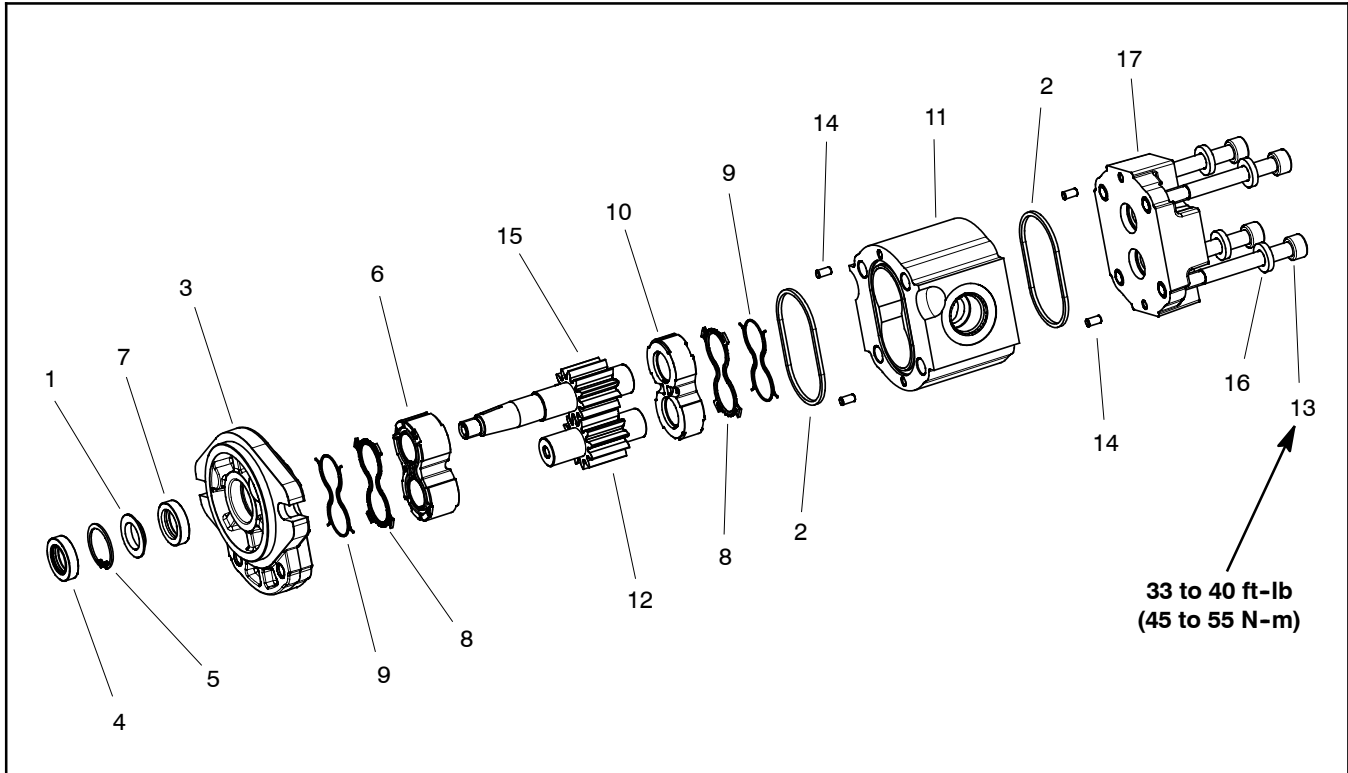

Figure 96
The Casappa cutting deck motors have similar construction as the cooling fan motor (also a Casappa brand) used on the Groundsmaster 4100-D and 4110-D. The deck motors have a separate rear cover (item 17 in Fig. 96) which is a difference from the cooling fan motor which includes the rear cover with the motor body. Orientation of the dust seal (item 4 in Fig. 96) is different in the deck motors than in the cooling fan motor.